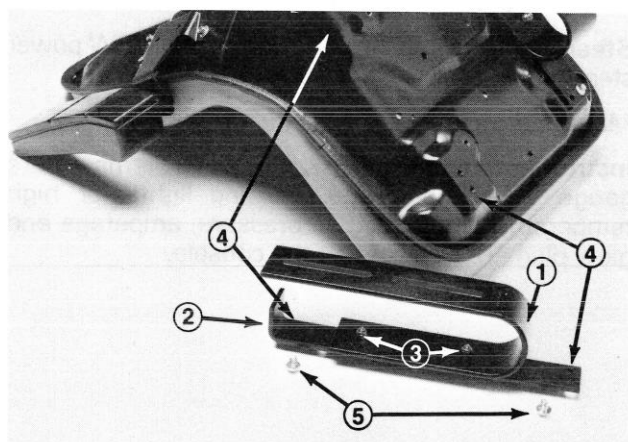

Figure 2
1. Attach "U" springs to seat mounting brackets using bolts and locknut as shown in (Fig. 2).
2. Align mounting holes of seat mounting brackets with mounting holes in seat. Secure each seat mounting bracket to seat with capscrews and lock-washers (Fig. 2).